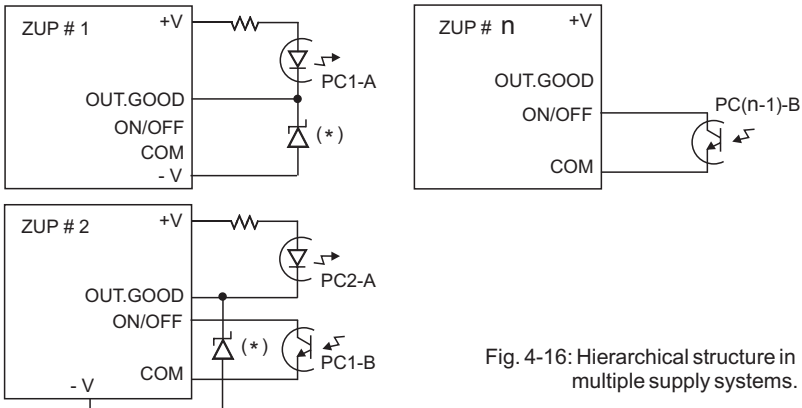

Fig. 4-16: Hierarchical structure in multiple supply systems.
2. Hierarchical structure in multiple supply systems: It is possible to define a hierarchy in multiple supply systems by enabling any N+1 unit by the Output Good signal of the N unit. In this structure, failure of the N unit will cause all the following units to be disabled. Refer to Fig 4-16 for typical connections diagram.